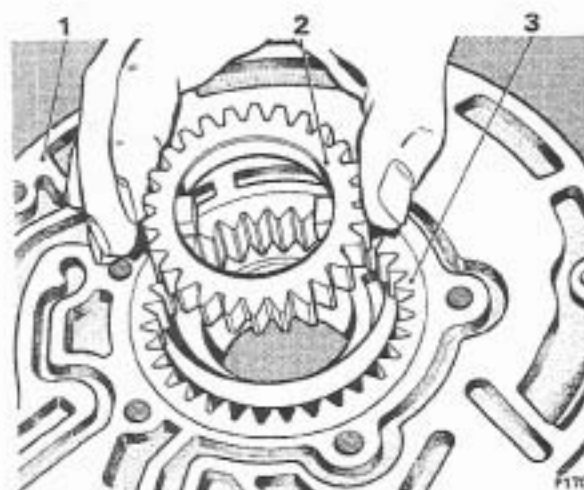

FIG. T226 REMOVING THE PUMP GEARS
- 9. Remove the gears from the pump body as shown in Figure T226.